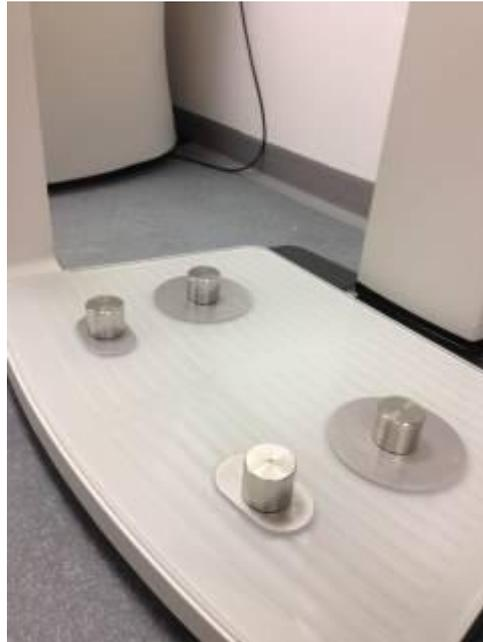

Figure 1.
- a. Position one small cylindrical test weight on each foot electrode (figure 1). It does not matter which one goes on which electrode but the end with the hole in the centre needs to be face-up.